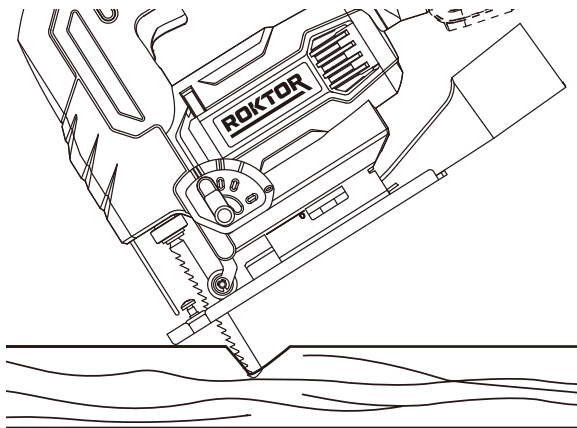

Figure 10-1
5. PLUNGE SAWING (SEE FIG. 10-1 & 10-2)